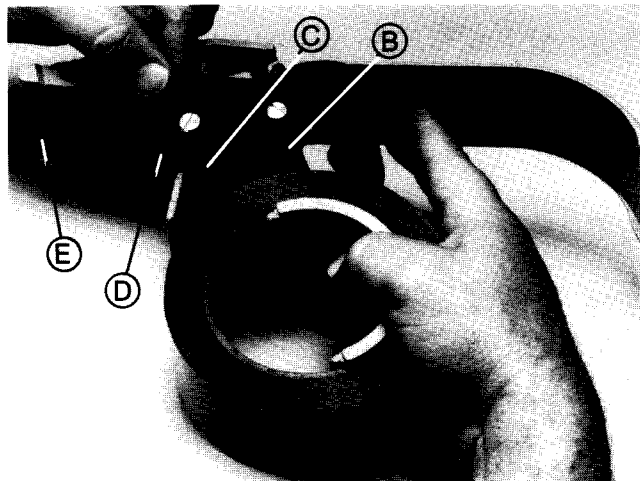

Figure 3
Figure 3 — Pull 4 - 6 inches [100-150 mm] of tape from the roll, thread the tape lead end over the knurled roller (B) and between the “V” roller (C) and “V” spring (D). Pull the tape forward so the tape tab lead end is just past the cut-off blade (E). Dispenser is ready to use.